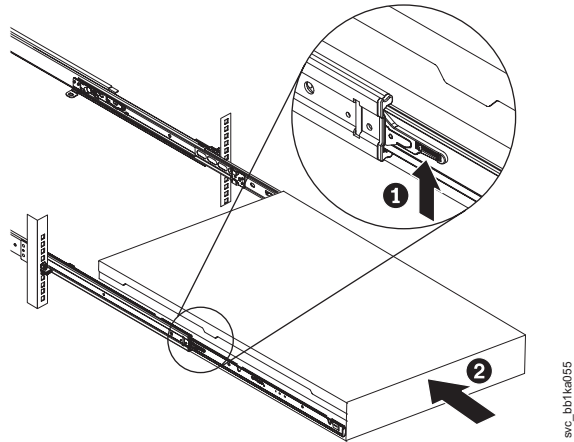

Figure 123. Raising the SAN Volume Controller 2145-CF8 or 2145-CG8 locking levers of the slide rails of the rack
12. Lift the locking levers (1 in Figure 123 on page 142) on the slide rails and push the server 2 all the way into the rack until it clicks into place.